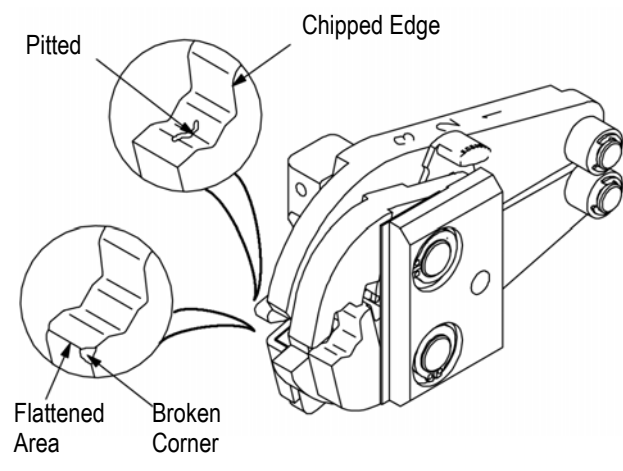

Figure 7
4. Inspect crimp area for flattened, chipped, or broken areas. See Figure 7. Replace worn or damaged parts.